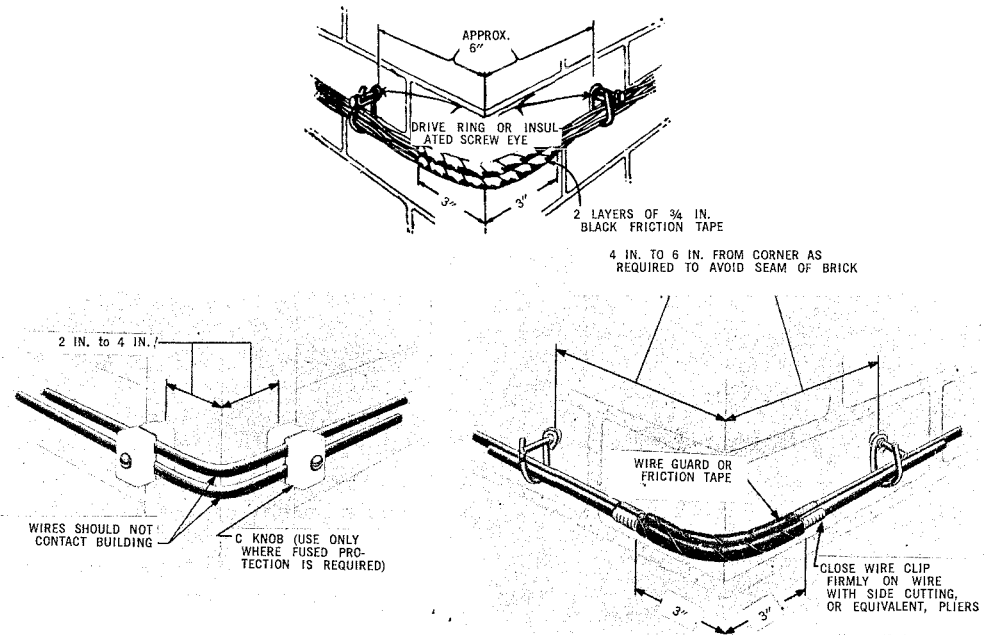

Fig. 2 - Intermediate Building Attachments at Outside Corners
11.02 Typical drop and block wire runs using a variety of attachments are shown in Fig. 2 through 5.